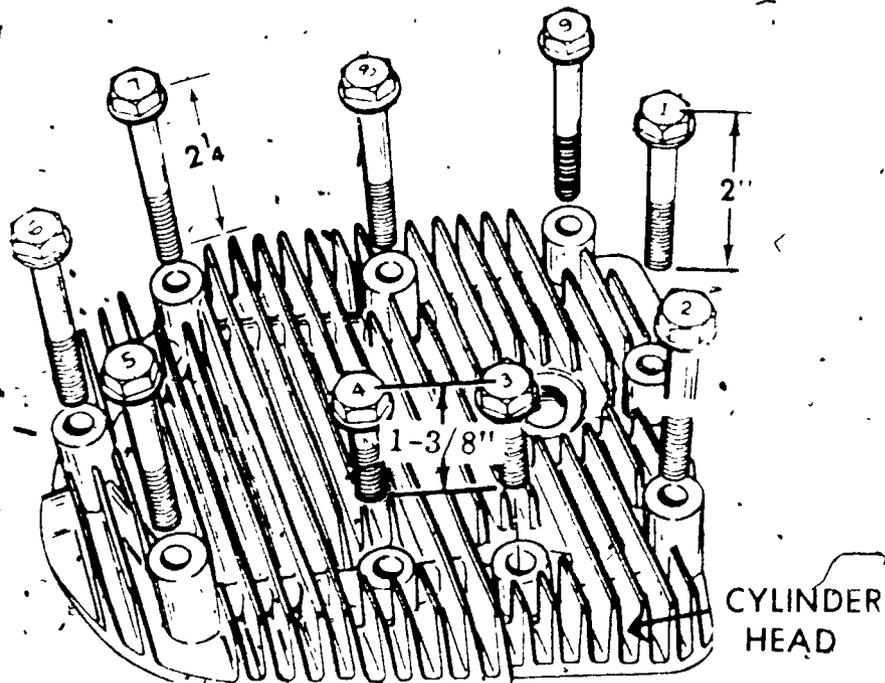

FIGURE 1
- O Mark bolts so different length bolts will be returned to the proper location (Figure 1).